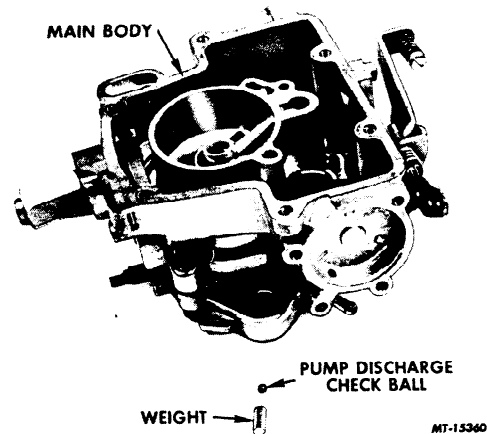
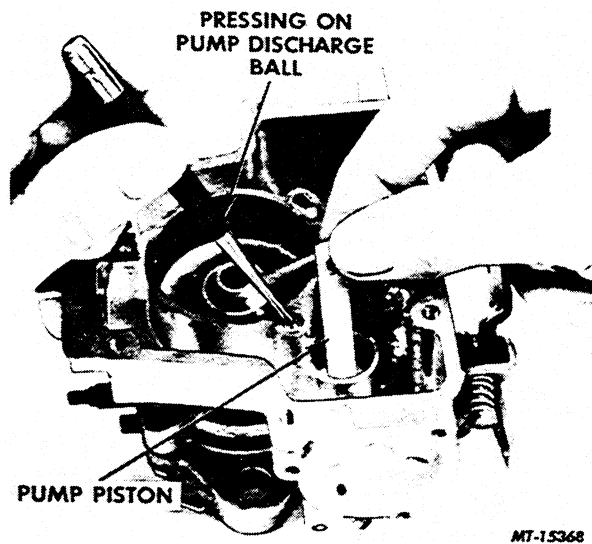

FIG. 20 Remove or Install the Pump Discharge Ball and Weight
FIG. 25 Testing the Accelerator Pump System
1. Turn the carburetor body upside down and remove the pump discharge ball and weight (Fig. 20). Save the old ball in case the seat needs staking (Fig. 25).
Except for the following vacuum piston staking operation (Fig. 24), and testing the pump discharge valve (Fig. 25), reassembly is the reverse of disassembly.
Test the pump discharge valve prior to assembly by filling the pump cylinder with clean fuel. Hold the pump discharge ball and weight down with a small punch or drift and operate the pump plunger by hand. If the valve and seat are leaking, fuel will rise around the valve weight and spill over (Fig. 25).